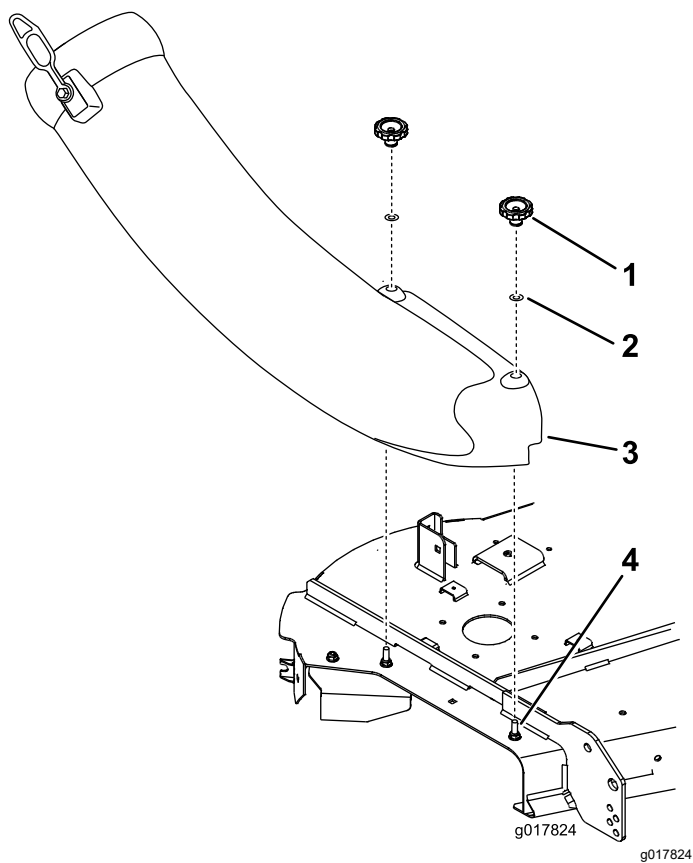

Figure 26
6. Align the holes in the chute and install it onto the bolts. Secure the chute to the mower deck with the two knobs and flat washers (5/16 inch) (Figure 26).